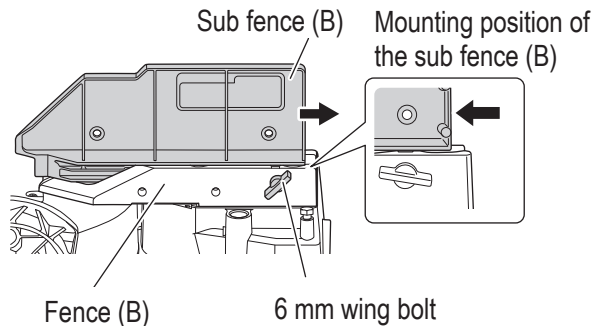

Fig. 19
When changing the bevel angle to the left 45°, loosen the 6 mm wing bolt shown in **Fig. 19 on page 84**, then slide the sub fence (B) outward and incline the motor head to the left.
3. Confirmation for use of sub fence (B) (Fig. 19)
In the case of direct angle cutting and right bevel angle cutting, slide inward to the position where the sub fence (B) hits, and secure it with 6 mm wing bolt. (as shown in Fig. 19)